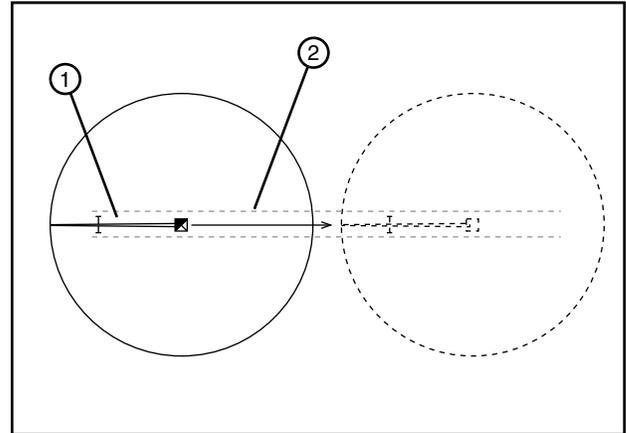

Figure 57-1 1. Machine
1. Position the machine in the tow lane. When positioning the center pivot, always use the "STOP" button on the control panel to stop the center pivot. NEVER stop the center pivot with the control panel or service disconnect switches. See Figure 57-1.